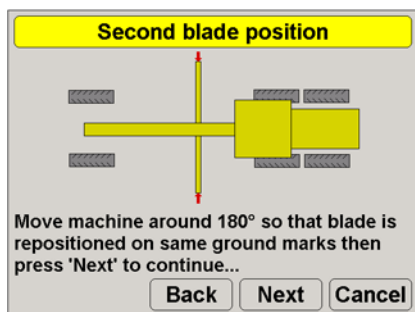

Figure 4-6. Second Blade Position
4. Press **Next** and wait five seconds until the Second blade position dialog box displays (Figure 4-6). Turn the machine around 180 degrees and gently reposition the blade on the same marks.